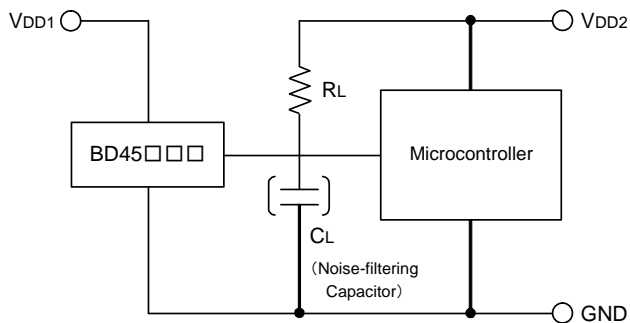

Fig.11 Open Collector Output Type
The power supply of the microcontroller (VDD2) differs from the power supply of the reset detection (VDD1). Use the open drain output type (BD45□□□G) attached a load resistance (RL) between the output and VDD2. (As shown Fig.11)